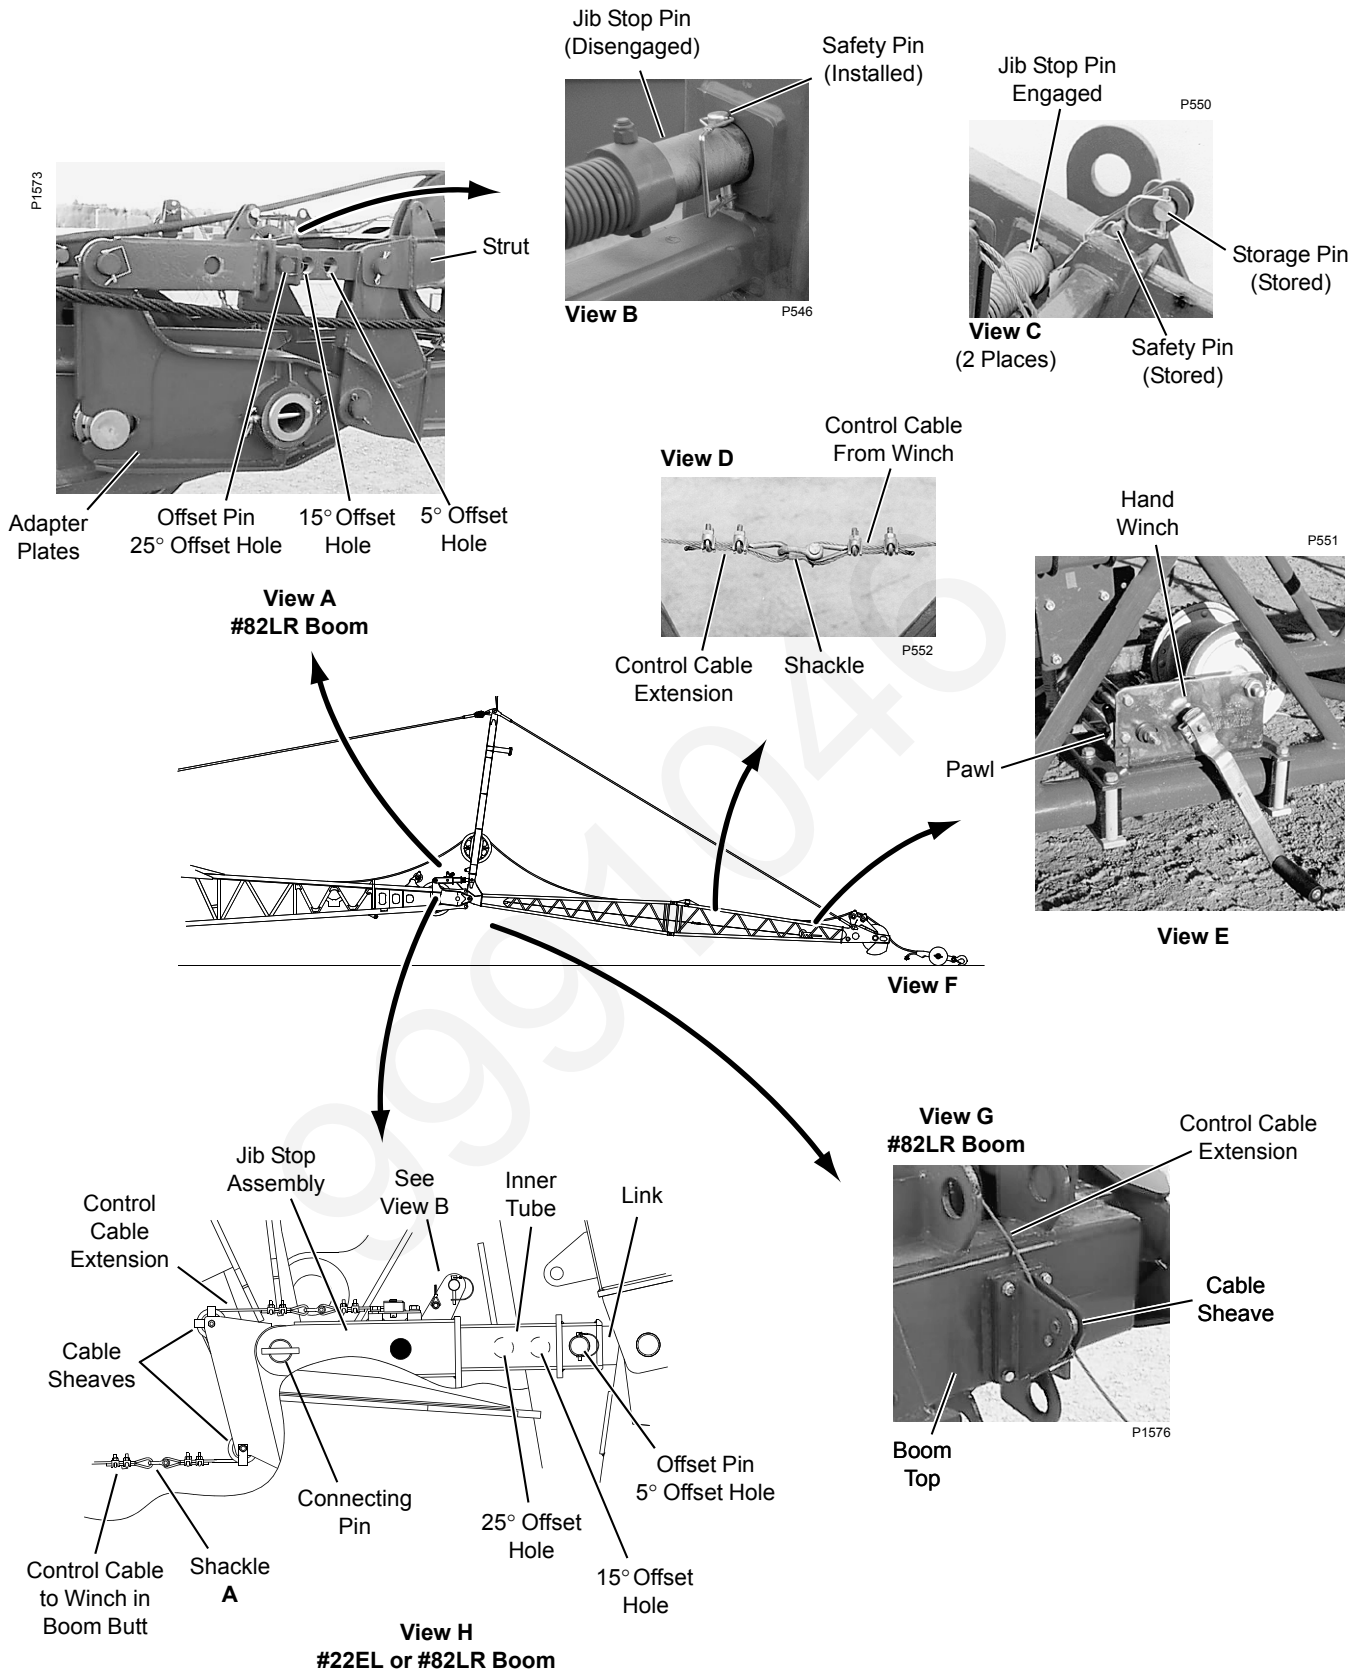

FIGURE 4-42
See Figure 4-42 for the following procedure.
3. Install safety pins (Figure 4-42, View B).